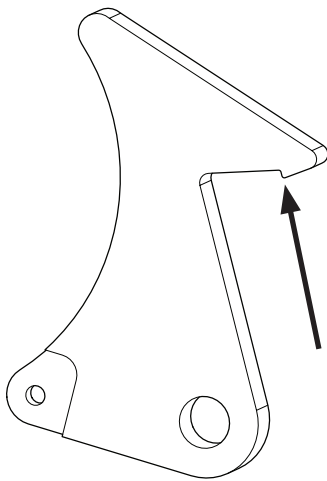

Figure 3
- If the notch on the arm hook latch component is present (Figure 3), then no changes are necessary to the component. Verify software version is 0.9.7.16 or later. If it is, then no action is required for software updating. See the verification procedures on page 7.